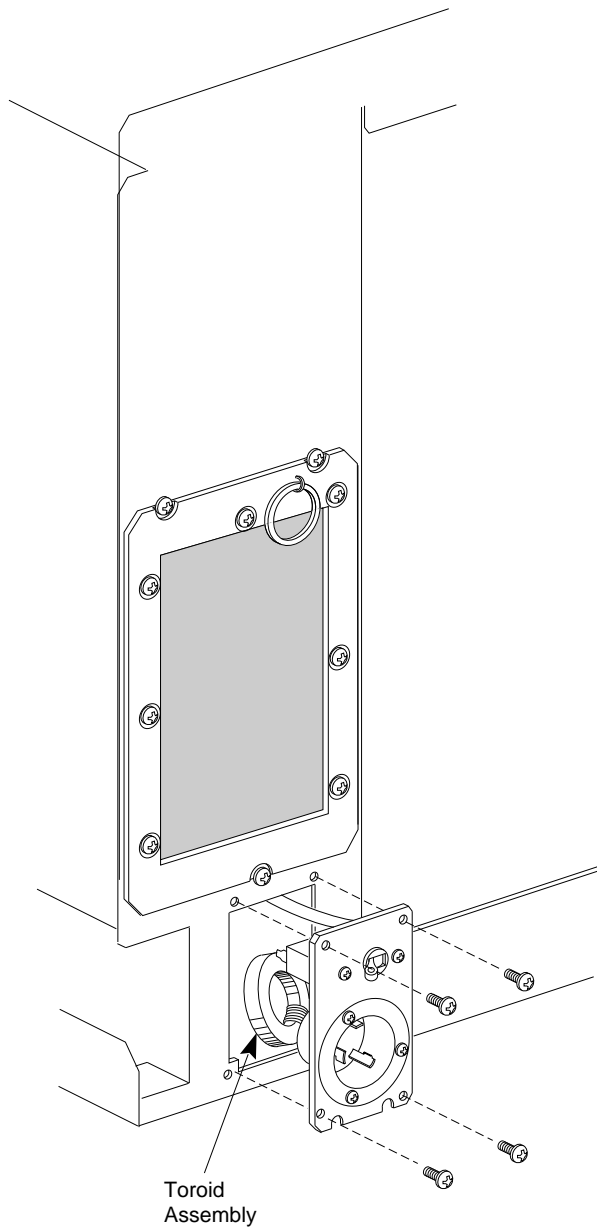

Figure 5-82 Replacing the Power Connector Assembly
6. Remove the power connector assembly from the chassis (see Figure 5-82).